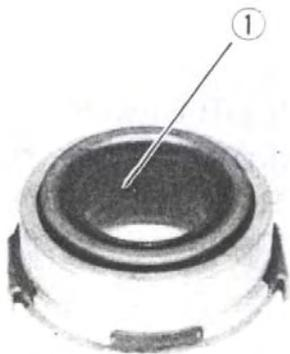

FIG.11-30
Apply grease to inner surface of (1) (FIG.11-30)